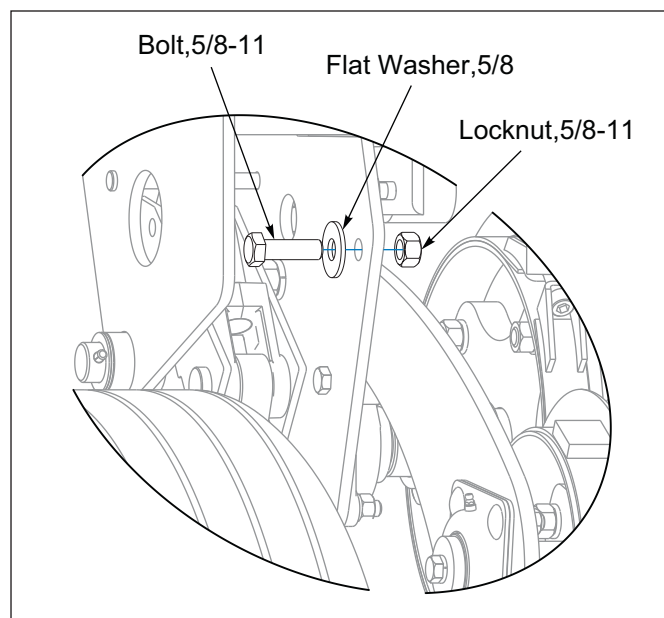

Figure 2-19: Shipping Bolt
7. Remove from the RH and LH Frame End Plate the 5/8-11 Shipping Bolts that locks the Rear Roller Arms Down. **See Figure 2-19.**